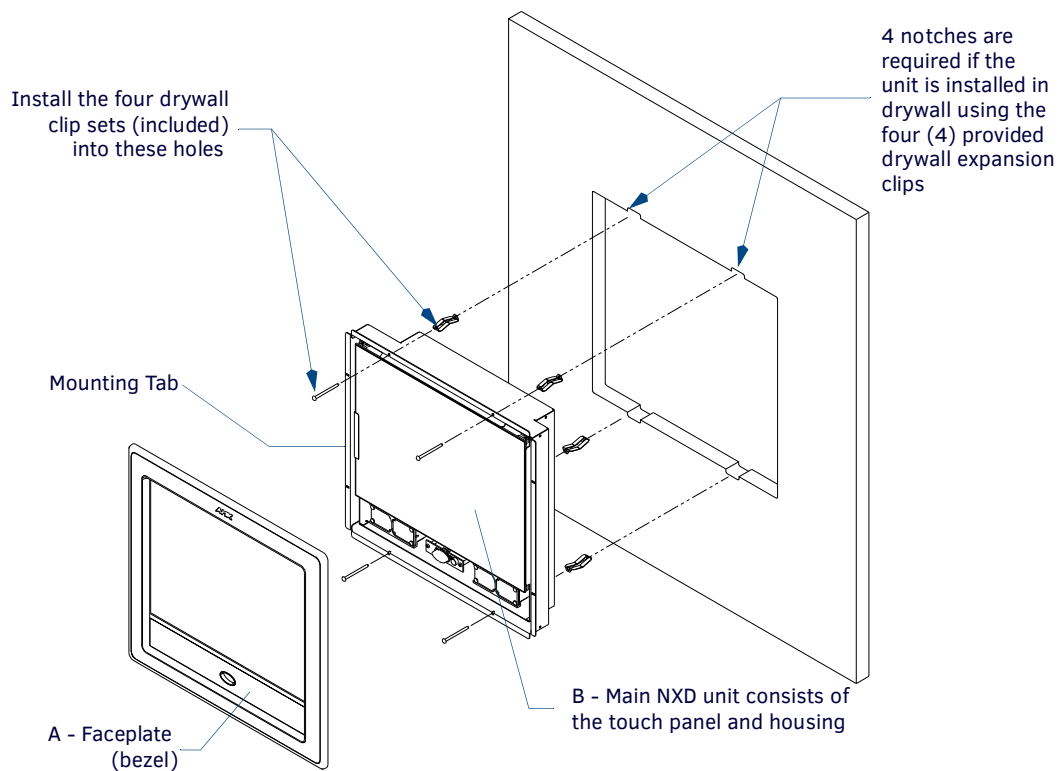

FIG. 42 Wall Mount panel (NXD) installation configuration for drywall surfaces
3. Remove the magnetic faceplate/bezel (A in FIG. 42) from the main NXD unit (B in FIG. 42) by gripping the faceplate and pulling with gentle outward force.
11. Place the magnetic faceplate (**A** in FIG. 42) back onto the main NXD unit (**B** in FIG. 42). Make sure to align the Microphone, Light, and PIR Motion sensor locations to their respective openings on the front bezel/faceplate.